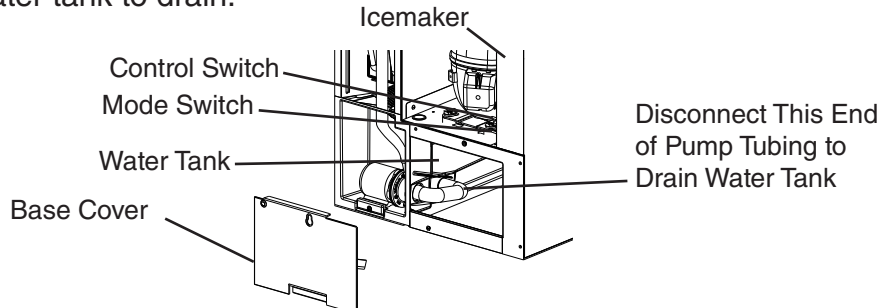

Fig. 24
2a)(1) For **KM-322_522MAK, KM-622M_K(Z)** - Remove the front insulation panel, then disconnect the water tank pump tubing located behind the base cover. See Fig. 24. Allow the water tank to drain.